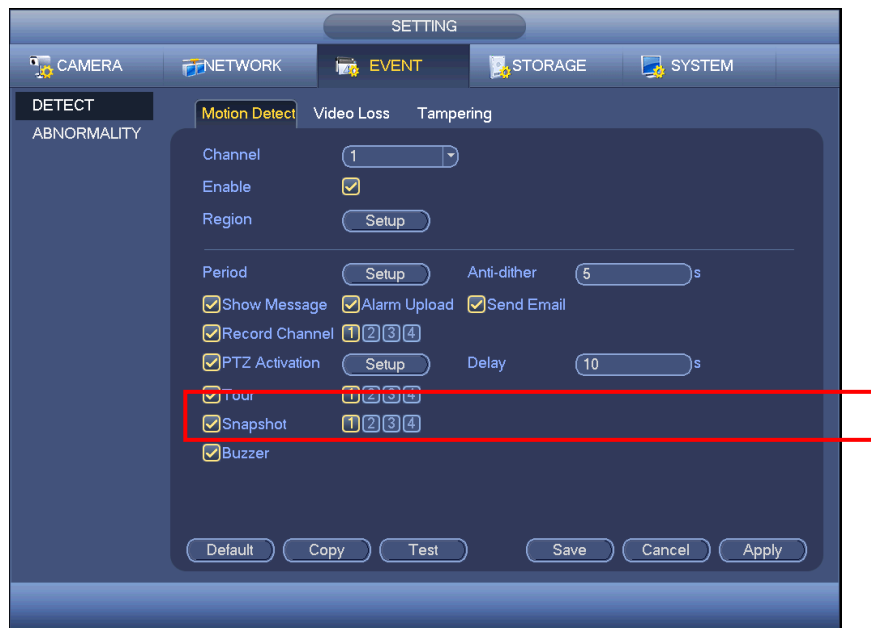

Figure 4-109
- In main menu, from Setting->Event->Detect, please enable snapshot function for specified channels (Figure 4-109).